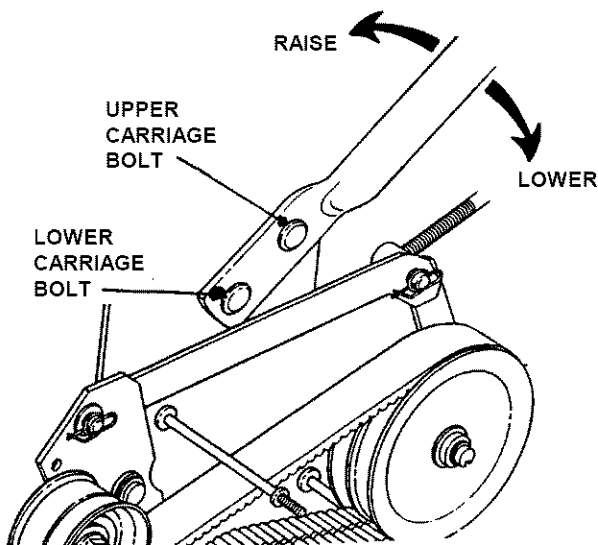

FIGURE 5.4
3. Raise or lower handlebar to desired height. See Figure 5.4.
4. Install the carriage bolt and nut in the lower hole in handlebar and securely tighten nut. See Figure 5.4.